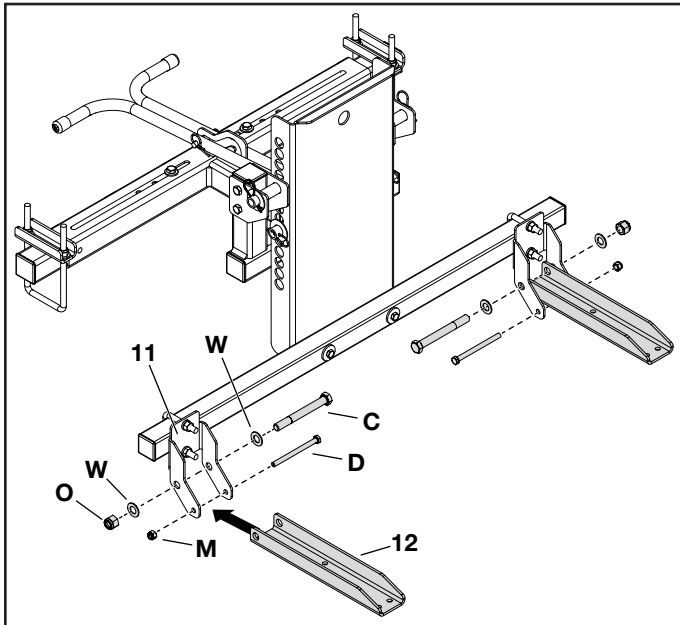

FIGURE 10
STEP 10: (SEE FIGURE 10)
- Attach the two lift brackets (12) to the two mounting brackets (11) using two hex bolts (C) four washers (W) and two Nylock hex nuts (O).
- Install the two hex bolts (D) with two Nylock hex nuts (M) below the lift bracket so that the lift bracket rests on hex bolt (D).